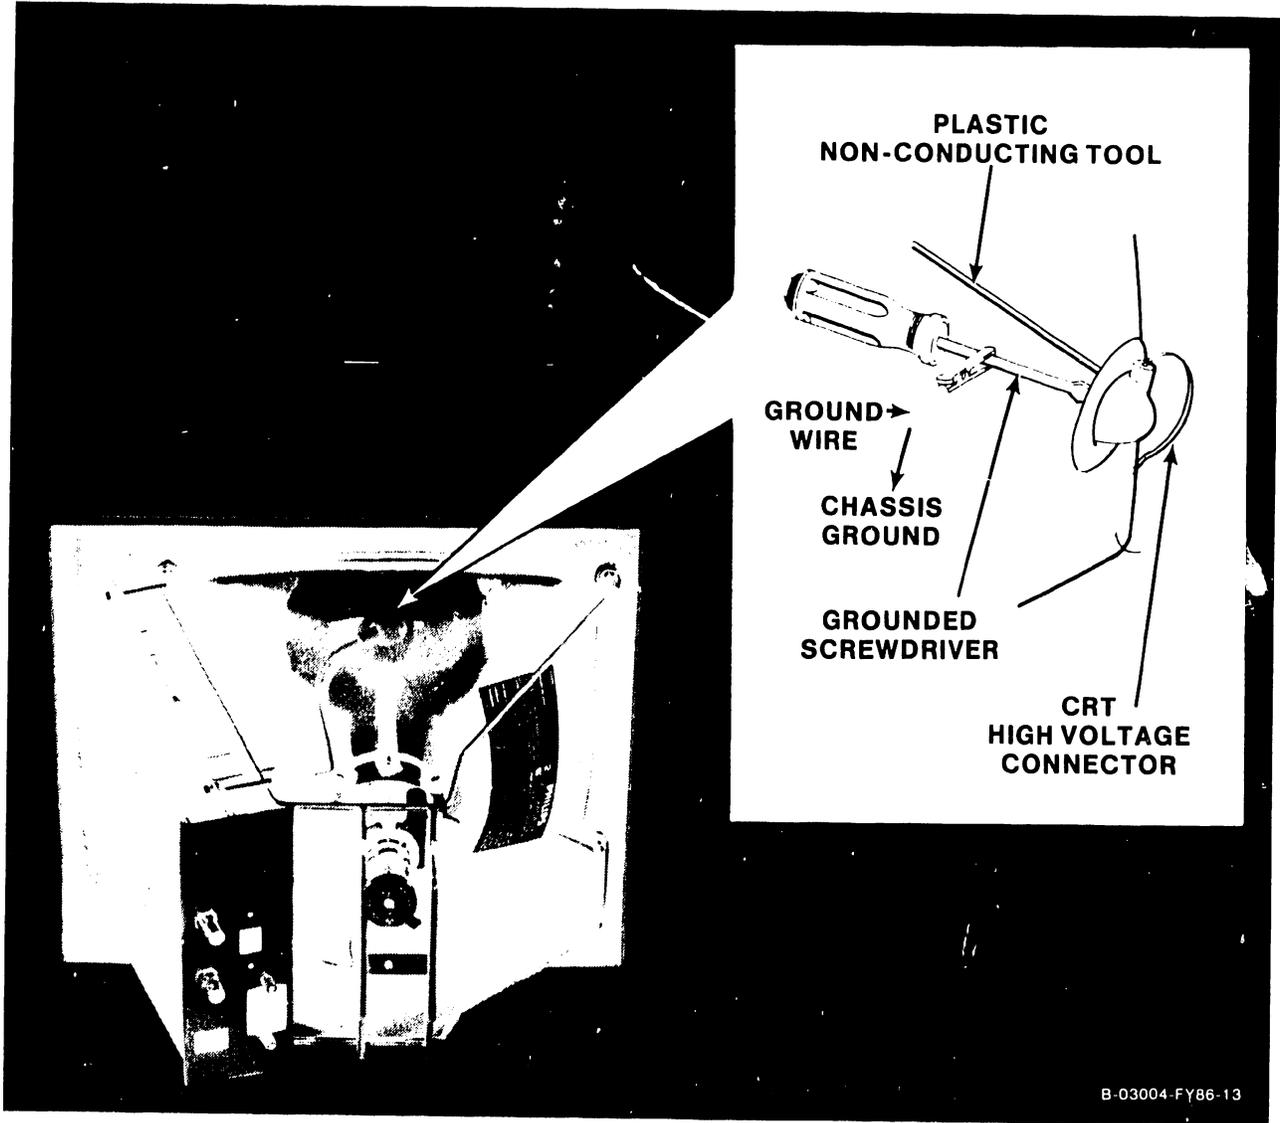

Figure 7-3. CRT Second Anode Discharge Procedure
1. Using a non-conducting tool (plastic alignment tool) raise edge of rubber anode cap and insert screwdriver (figure 7-3).
2. Discharge CRT anode by touching anode clip with grounded screwdriver. (figure 7-3).
8. The Power Supply/Monitor PCA may be removed by using a 3/8 inch open-end wrench or nut-driver, and removing the four (4) fastener nuts from the four (4) mounting screws on the chassis mounting frame. Refer to Figure 7-3 for specific information regarding high voltage connection removal.
- b. CRT pin connector on the CRT neck (figure 7-3).
- c. CRT second anode connector at the second anode connection on the CRT (figure 7-3).